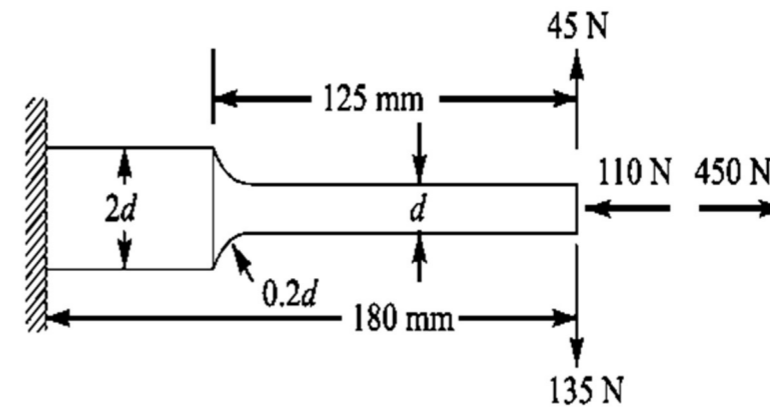

Figure 11b
- (b) A steel cantilever beam, as shown in Fig. 11b, is subjected to a transverse load at its end that varies from 45 N up to 135 N down as the axial load varies from 110 N (compression) to 450 N (tension). Determine the required diameter at the change of section for infinite life using a factor of safety of 2. The strength properties are as follows: